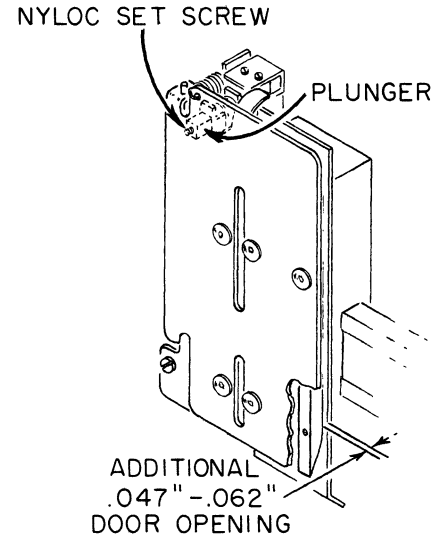

FIG. 24
2. Adjust the jam detection nyloc set screw for break of the jam detection switch with an additional door opening of .047" to .062". This will result in a door opening of .095" to .118" when the switch breaks. Refer to Fig. 24